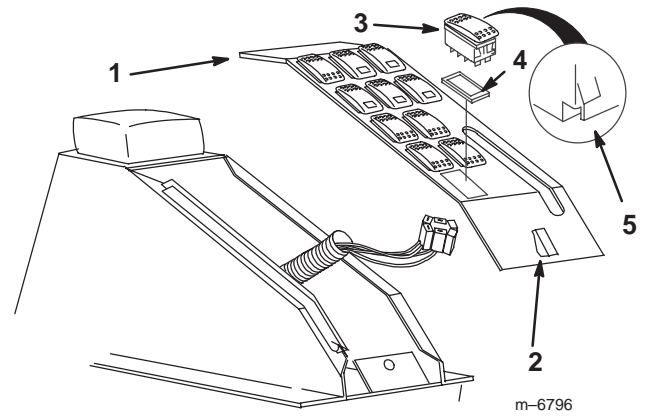

Figure 12
1. Remove the spray control panel to expose the bottom side (Fig. 12).
2. Lift and remove the sonic boom plug from the spray control panel on the vehicle and install the rocker switches provided in its place (Fig. 12).
Note: Ensure that the orientation of the switch matches what is shown in Figure 12, with the notch pointing toward the rear of the vehicle.